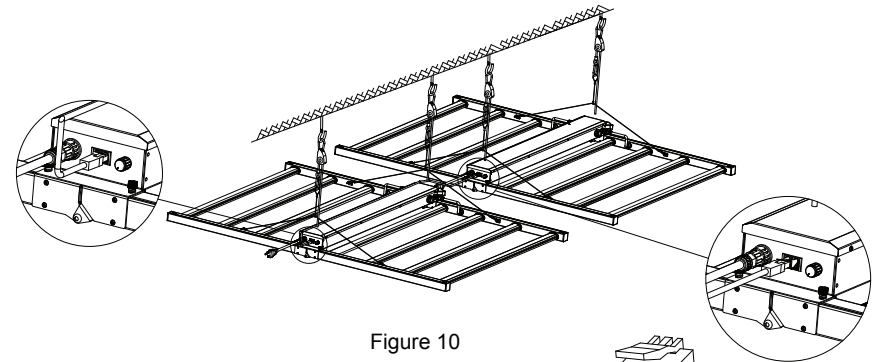

Figure 10
10. If the parallel lights need dimming function, pls connect the network cable in the accessory to the RJ12 network cable connector of the driver box. (Figure 10)